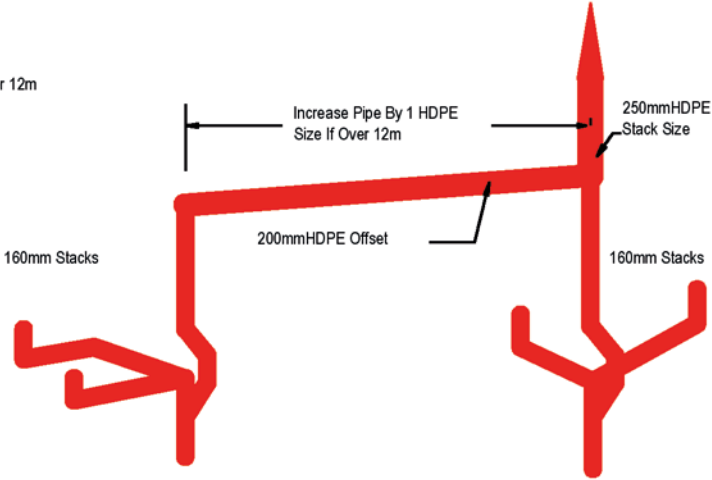

Fig 6 Bracketing of Akavent stacks
8.0 Bracketing (see figure 6.)